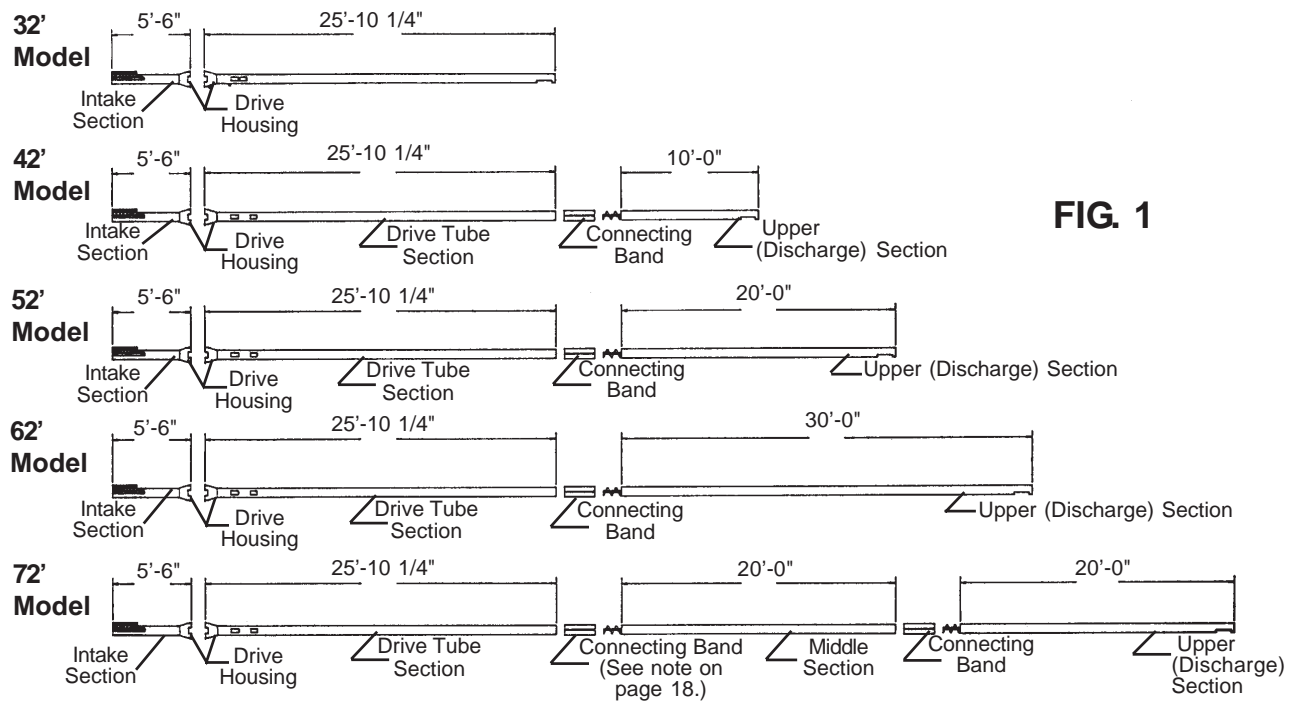
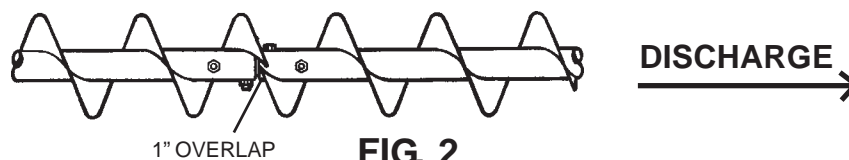

FIG. 1
FIG. 2
Choose an area of open level ground accessible to chain hoist or other lifting device where the auger may be laid out full length. Arrange the tube sections in their relative positions. See Fig. 1. For ease of assembly, place the tubes on stands or blocks so the drive housings are off the ground with the tubes level. **NOTE:** Orient the 25' 10-1/4" tube sections so the decals are right side up and readable.
1. Before joint any flights, slide a connecting band onto the lower tube wherever tubes will banded. See Fig. 1. Flights located above the gearbox can then be bolted together using 7/16" x 3" long (grade 8) hex head capscrews with locknuts. **IMPORTANT:** Flights are indexed to achieve timed connections. (A timed connection is where the flight pitch does not change across the connection.) When bolting timed flight sections together, position the flight ends so that the flighting overlaps and is continuous across the joint. See Fig. 2.
1. Before joining any flights, slide a connecting band onto the lower tube wherever tubes will be banded. See Fig. 1 on page 18.